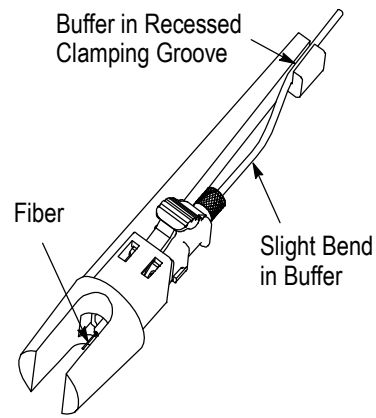

Figure 7
2. With the buffer gripped behind the connector subassembly, lightly bias the buffer forward to form a slight bend as shown in Figure 7. Then insert the buffer into the recessed clamping groove of the cure protector.